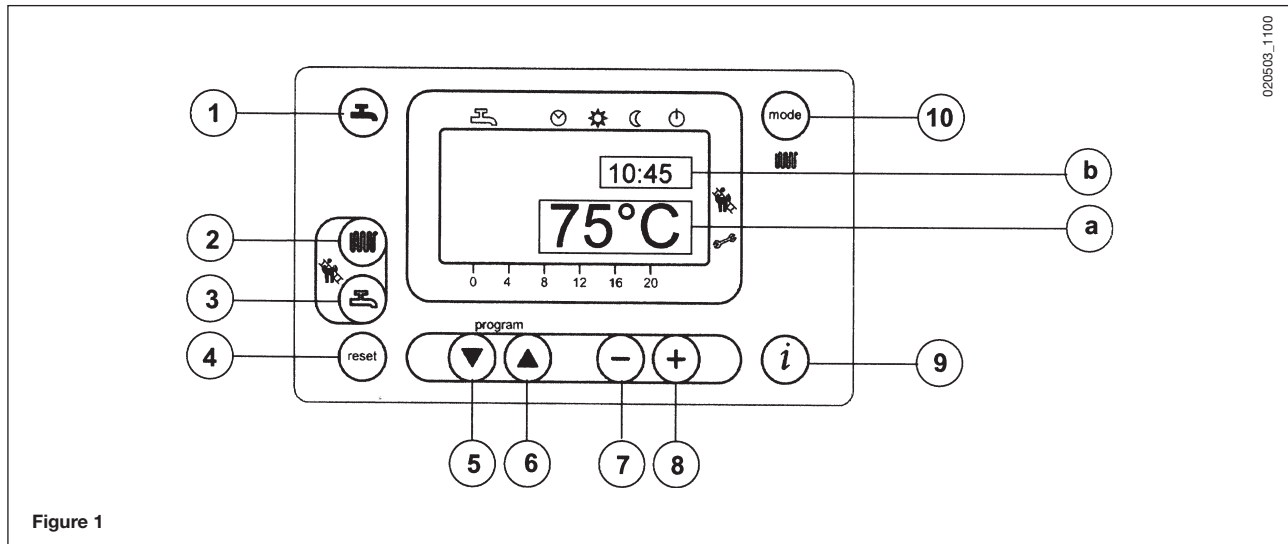

Figure 1
- Press the  key (2-figure 1) to set the central heating water temperature;
- press either of the   keys (1 or 10 - figure 1) to save and return to the main menu.
N.b – With the outdoor sensor connected, the  key (2 - figure 1) can be used to shift the central heating curve. Press the   keys to decrease or increase the room temperature in the premises to be heated.
- Press the  key (3-figure 1) to set the maximum domestic hot water temperature;
The fault warnings appear on the main display (figure 1 a) together with the  symbol (Figure 4).
Fault warnings appear on the secondary display (figure 1 b) alternating with the time, both of them flashing (figure 4.1). It is not possible to reset malfunction warnings which appear on the secondary display as the cause of the alarm has first to be removed.